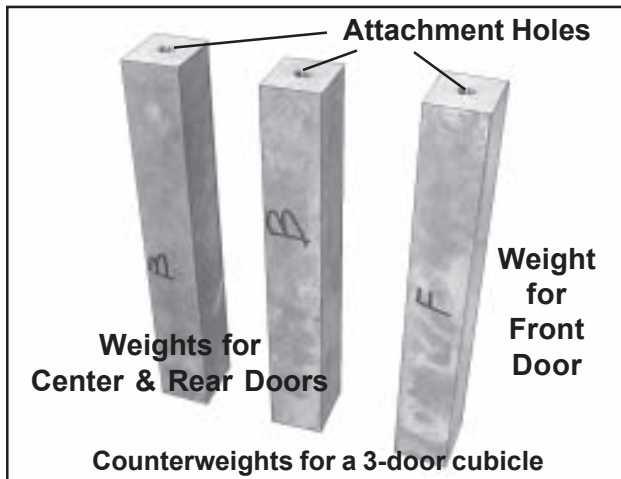

Figure 9. Door Counterweights
**Note:** The weights for the *front* door are marked with the letter **F** (Figure 9); the weights for the *center* and *rear* doors are marked with the letter **B**.